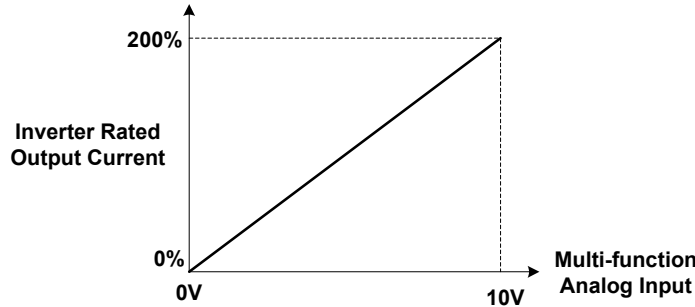

Fig. 9.2.4.6 Load Loss Detect Level Set by AUX Input
- P3-01 Load Loss Detect Level is set as a percentage of inverter rated current. When Sn-29 = 16, the Load Loss Detect Level is determined by the voltage applied to the AUX input terminal as shown in Fig. 9.2.4.6 below.